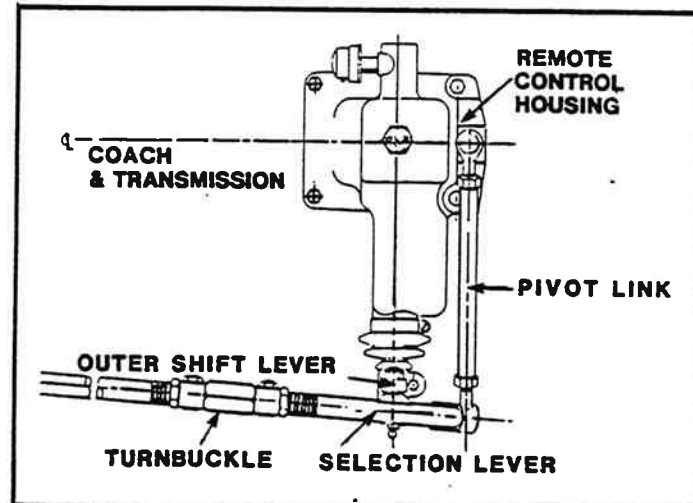

Figure 13-184. Remote Control Shift Linkage Installation.
3. Remove turnbuckle at rear shift linkage (figure 13-184).
6. Start turnbuckle on selection lever and rear control rod simultaneously and adjust until proper fore and aft position of gearshift lever (in neutral) is achieved (figure 13-184).